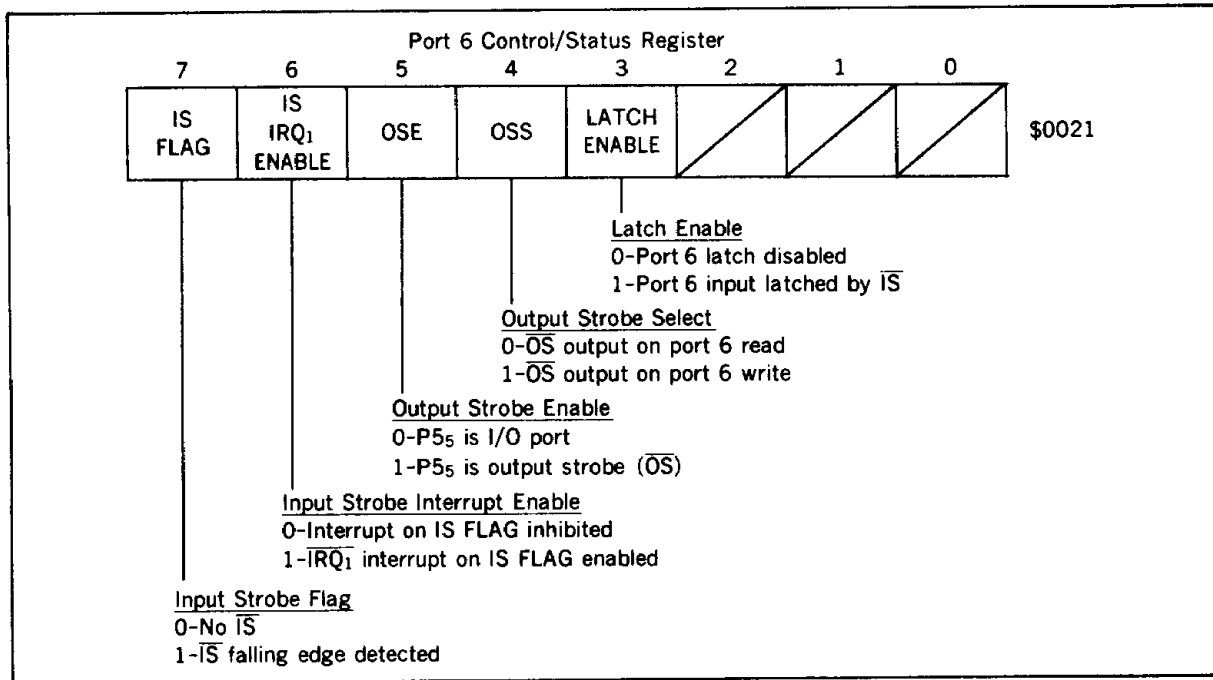

Figure 22. Port 6 Control/Status Register
**Port 6 Control/Status Register** : The port 6 control/status register (P6CSR: \$0021) controls and holds the status of the port 6 handshake interface (figure 22). The handshake interface functions as follows.